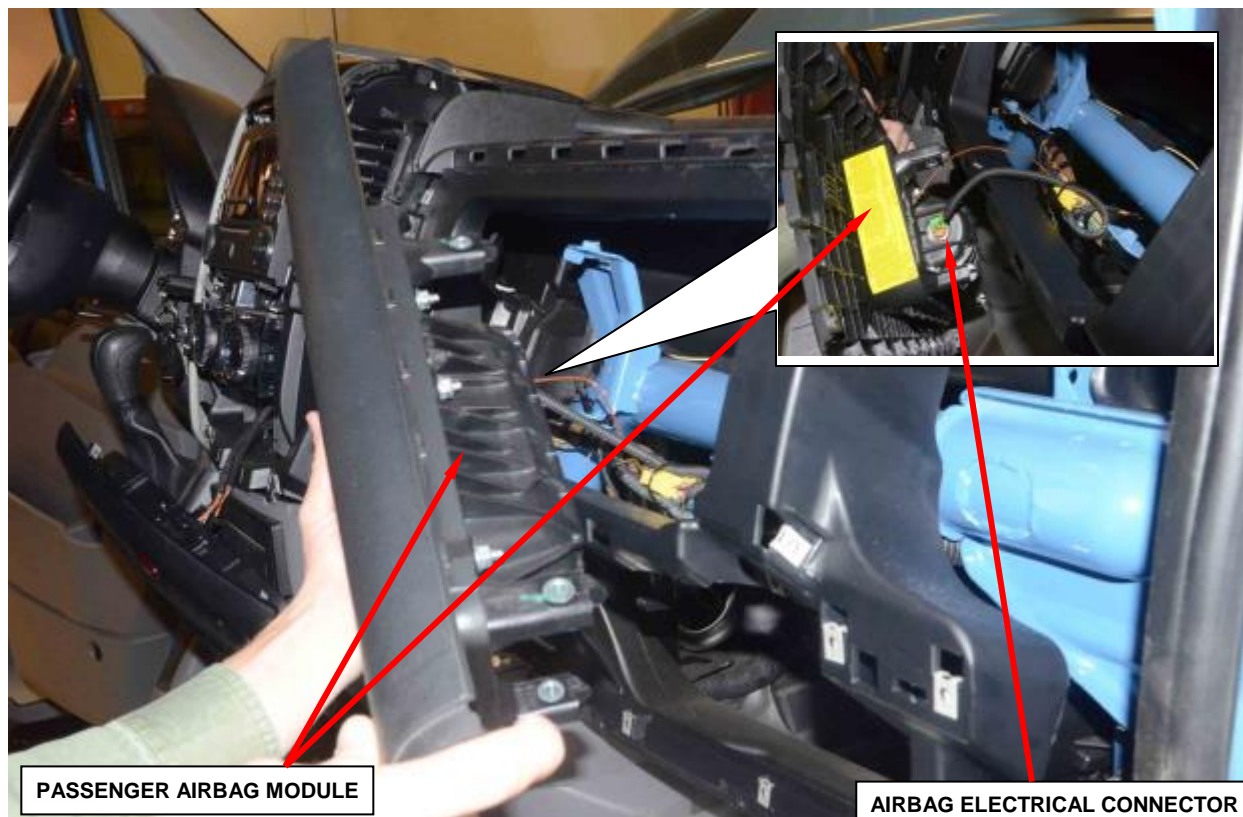

Figure 154 – Passenger Airbag Module
15. Pull the passenger airbag module rearward far enough to access the airbag electrical connector on the inboard end of the unit (Figure 154 and 155).